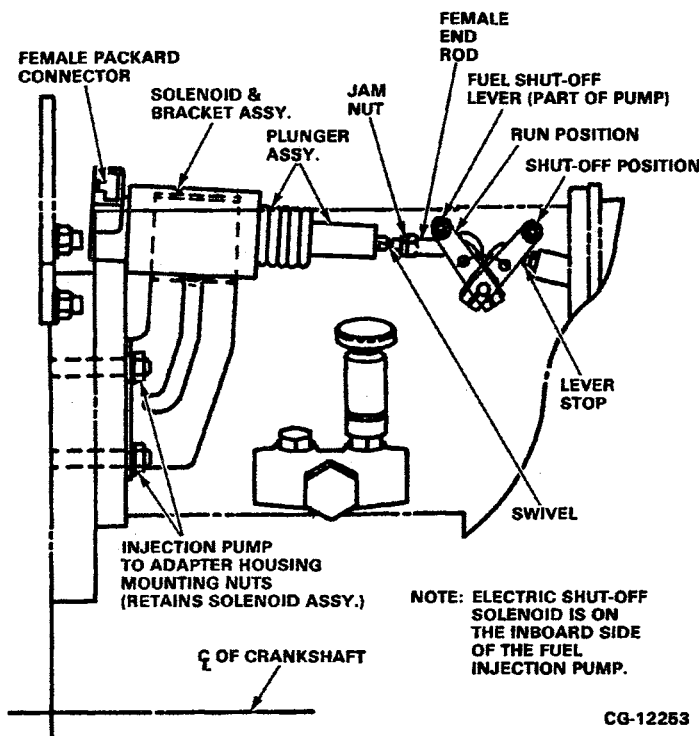

Figure 11.141. Electric Shut-Off Solenoid (Installed View)
4. Remove the electric shut-off (ESO) solenoid as follows: (Refer to Figure 11.141)